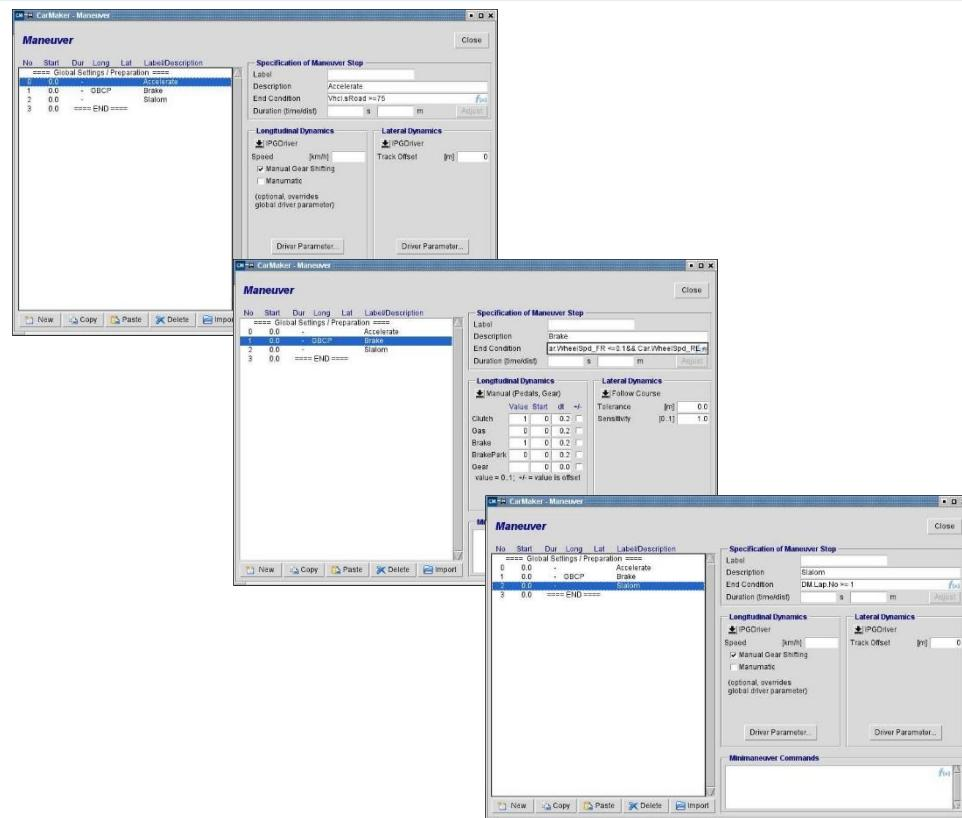

Figure 3.27: Maneuver dialog with successive maneuver steps
- Select "Manual" controller from the dropdown menu in the *Longitudinal Dynamics* field. The clutch and brake pedals must be fully pressed, set the values as shown in Figure 3.27: - (Middle).